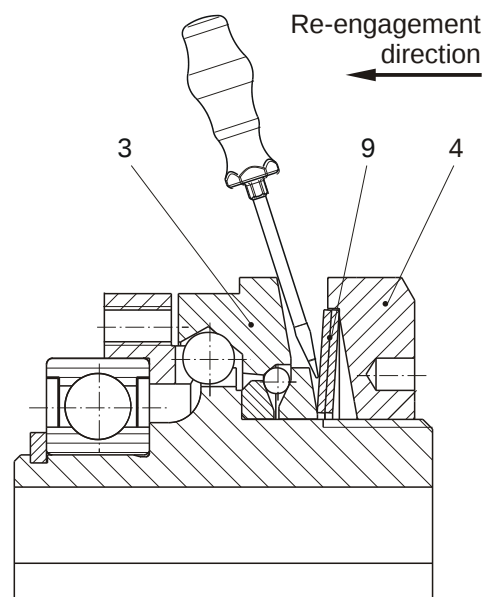

Fig. 2
- ☐ Manually, using a plastic hammer or installation levers (Fig. 2) supported on the cup springs (9), e. g. two screwdrivers placed opposite each other.